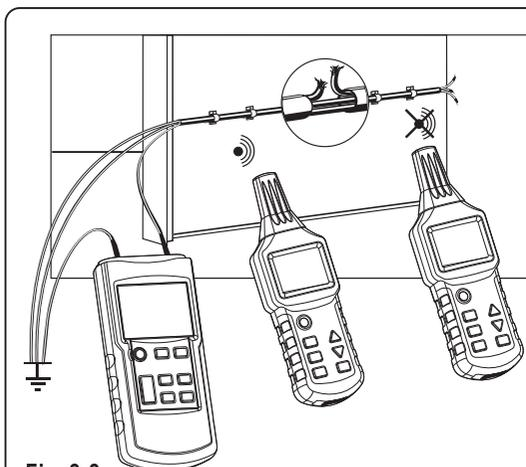

Fig. 2-2
In this example, please take a piece of a shielded cable with a cross sectional area of 1.5mm2. Provisionally install 5m of this cable along the wall with nail clips at eye level as surface mounting. Make sure that the wall is accessible from both sides. Create an artificial interruption at a distance of 1.5m before the line terminal. The line terminals must be open. Strip the interrupted lead at the beginning of the light shielded cable and connect it via the test leads (provided) with hole ⑩ of the transmitter. Connect terminal ⑪ of the transmitter to a suitable ground. All other cable leads must also be connected to the transmitter and the same ground (See Fig. 2-2).